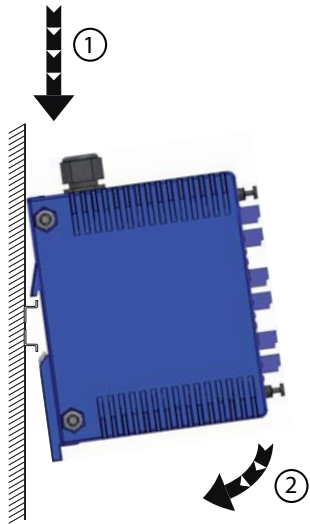

Figure 14: Mounting the device on the DIN rail
- Insert the slider into the rail and press the device down against the rail until it locks into place (see figure 14).